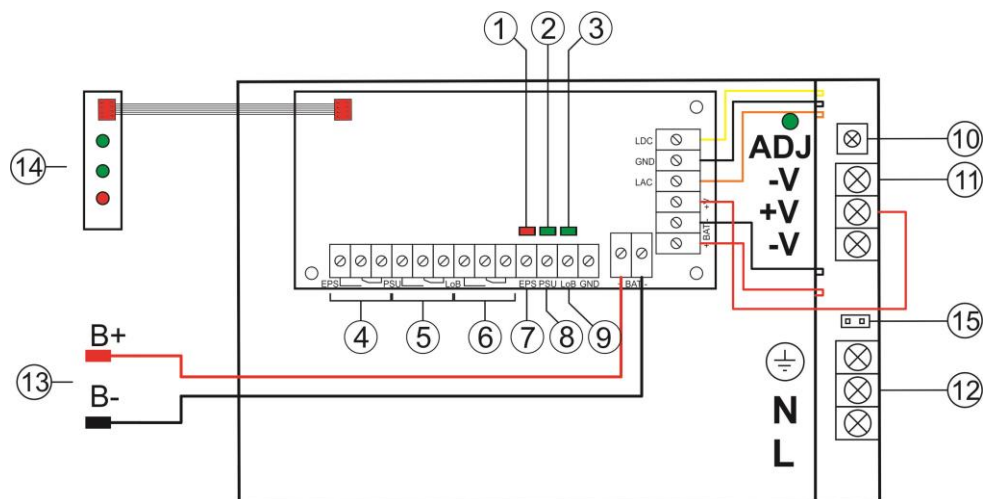

Fig. 2. The view of the PSU.
Table 1. Elements of the module's (see fig. 2).
Fixation	See figure 2
- red LED (Fig.2, element 1) normal status (AC power): permanently illuminated. AC power absence is indicated by the AC diode going out.
- green LED (Fig.2, element 2) indicates DC power at the PSU output. Under normal status the diode is permanently illuminated. In case of a short circuit or an overload, the diode is off.
- green LED (Fig.2, element 3) indicates battery voltage level. Under normal status ( $U_{BAT} > 11,5V$ ) the diode is permanently illuminated. In case of decrease of battery voltage ( $U_{BAT} < 11,5V$ ) the diode is off.
**CAUTION!** In Fig.2. the contact set in the potential-free status corresponds to a state with no AC power (AC power failure).
**CAUTION!** In the Fig.2. the set of contacts shows a potential-free status of the relay which corresponds to a state with no DC power (PSU failure).